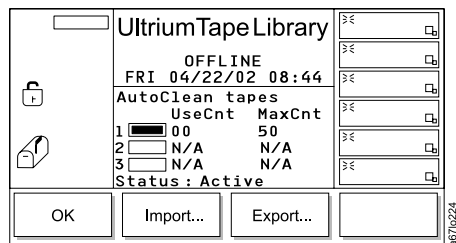

Figure 171. AutoClean Dialog
3. Press the button below the **AutoClean** softkey. The AutoClean Dialog displays (see Figure 171) with the following information about cleaning cartridges and cleaning slots in the library.